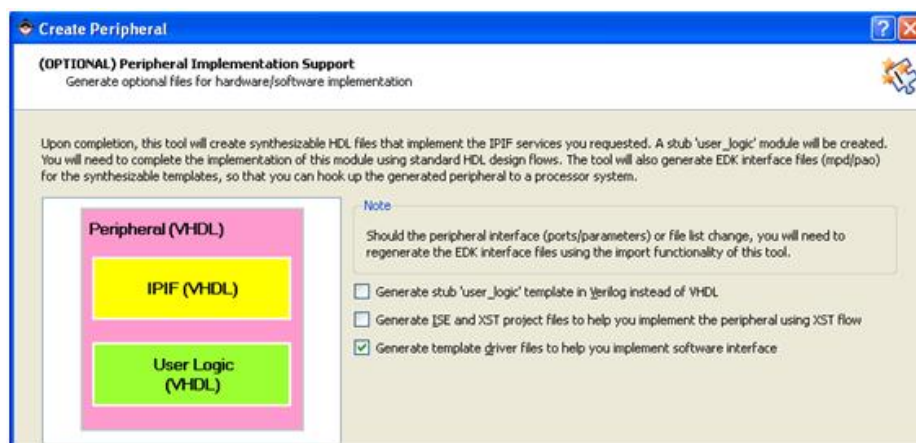

Figure 10. Peripheral Implementation Options Dialog Box
- 2-2-5. In the **(OPTIONAL) Peripheral Implementation Options** panel, click **Generate template driver files** to help you to implement software interface, leaving others unchecked (see Figure 10).